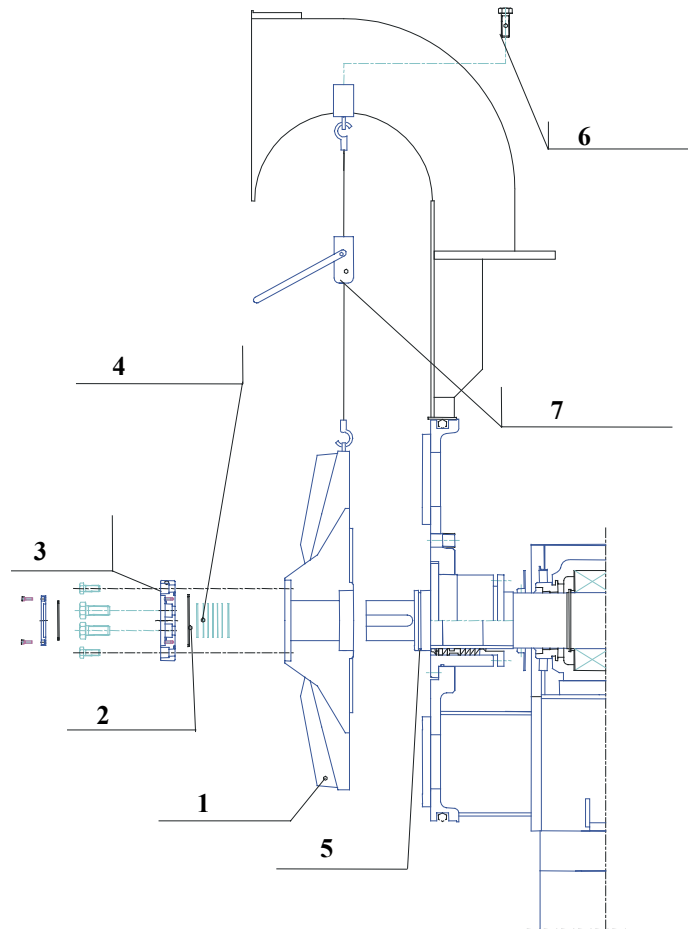

Figure 4 Removing the rotor (STOA009548)
1. Remove the rotor as described in Section 1.7: Replacing Rotor, under "Dismounting" (Figure 4).